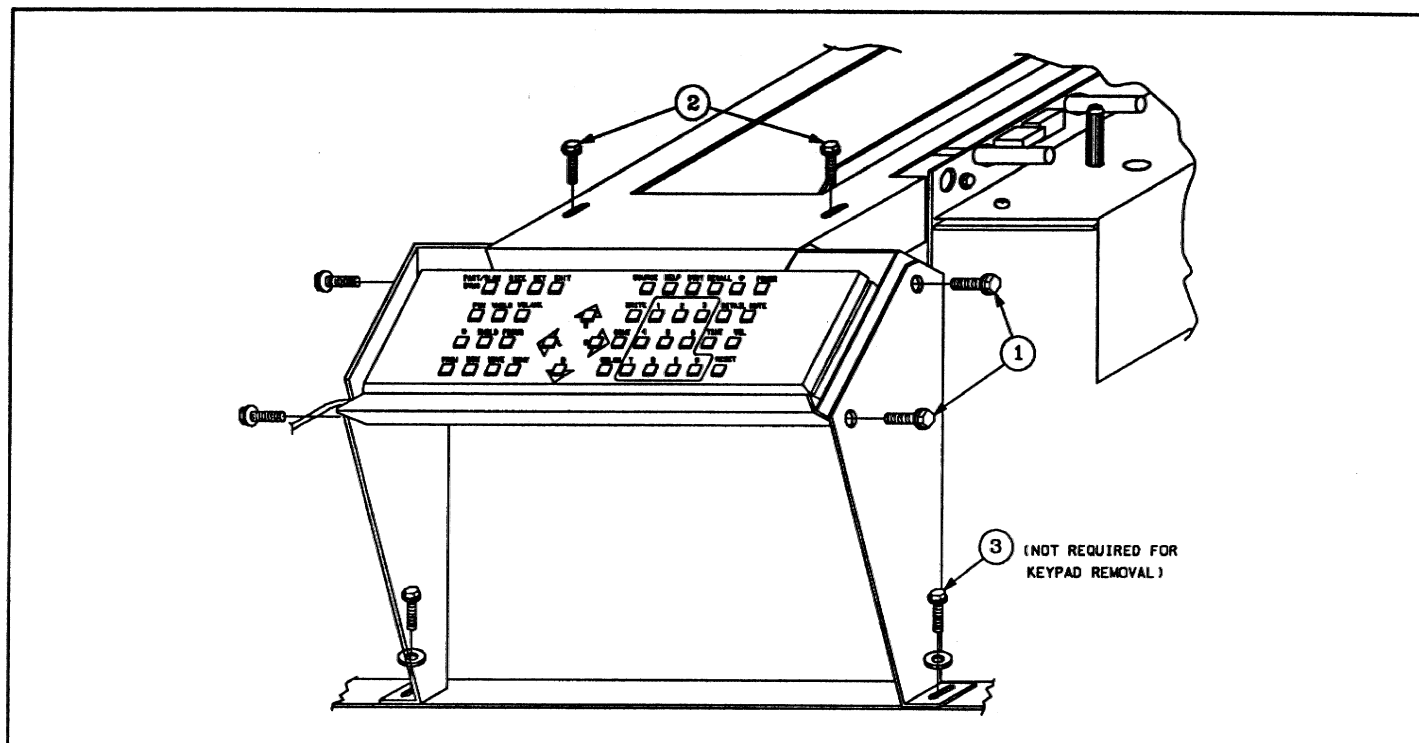

FIGURE 5-11. Keypad Removal
- d) Remove the 4 hex head screws which secure the keypad holder to the side brackets. See Figure 5-11, item 1.
- e) Remove the top 2 hex head screws which secure the keypad holder to the top bracket as shown (item 2).
- g) If the keypad side brackets must also be removed for ease in accessibility to other modules, remove the 2 side bracket mounting screws (item 3).
**NOTE:** Item 3 in Figure 5-11 does not require removal if only the keypad is to be removed.